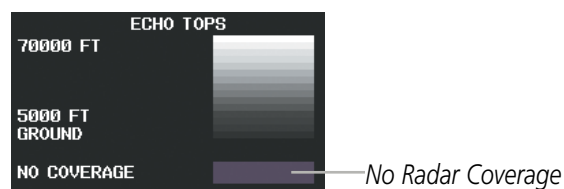

Figure 6-15 Echo Tops Legend
- 1) Select the Weather Data Link (XM) Page.
To display the Echo Tops legend (Figure 6-15), select the **LEGEND** Softkey when Echo Tops is selected for display. Since Echo Tops and Cloud Tops use the same color scaling to represent altitude, display of these weather products is mutually exclusive. When Echo Tops is enabled on the Weather Data Link (XM) Page, the system disables the NEXRAD and Cloud Tops weather products.